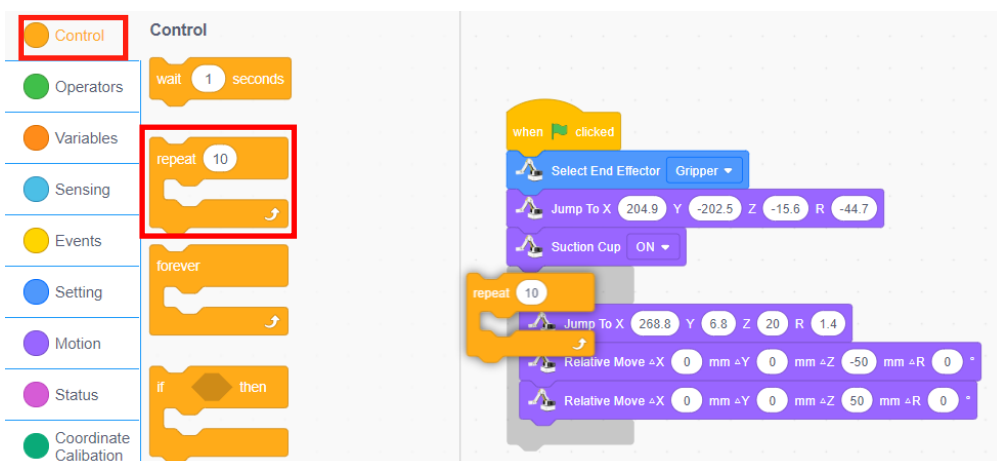

Figure 1.19 Repeating 10 times
Step 4: Repeat the stamping 10 times. Click the "Control" tab, drag out the "repeat (10)" block, and repeat the ink dipping and stamping actions, as shown in Figure 1.19.